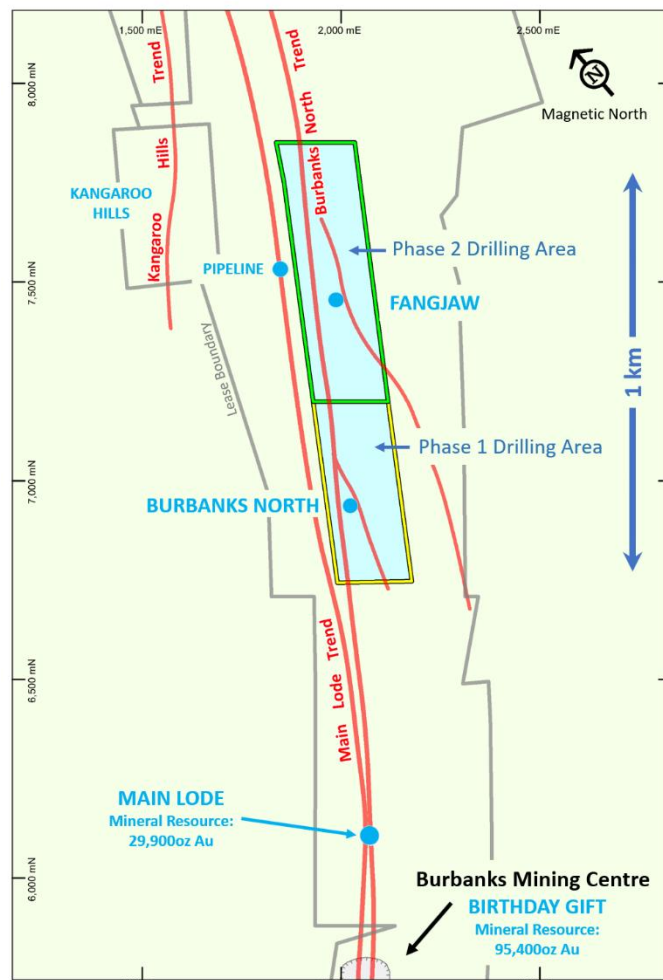

Figure 1 – Burbanks North Location Plan
In line with its gold strategy, Barra Resources Limited (Barra, the Company) has completed its Phase 2 Air Core (AC) drilling program aimed at extending known mineralisation along the Burbanks North Trend, 9km south of Coolgardie, Western Australia (Figure 1).